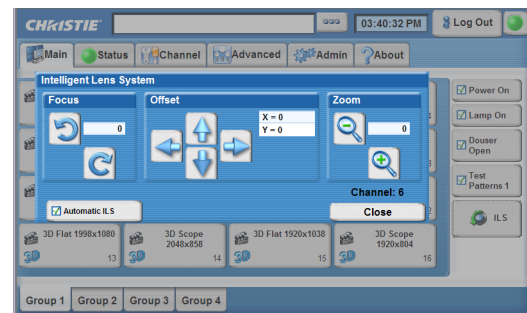

Figure 3-9 Intelligent Lens System
The **ILS** button launches a control screen used to adjust the Focus, Horizontal (X) and Vertical (Y) Offset, and Zoom of the lens. See **Figure 3-9**. All settings on this screen are in real-time. This menu also enables you to manually override the intelligent lens system settings.
3. Select the **ILS** button from the Main menu to launch the ILS screen (**Figure 3-9**).